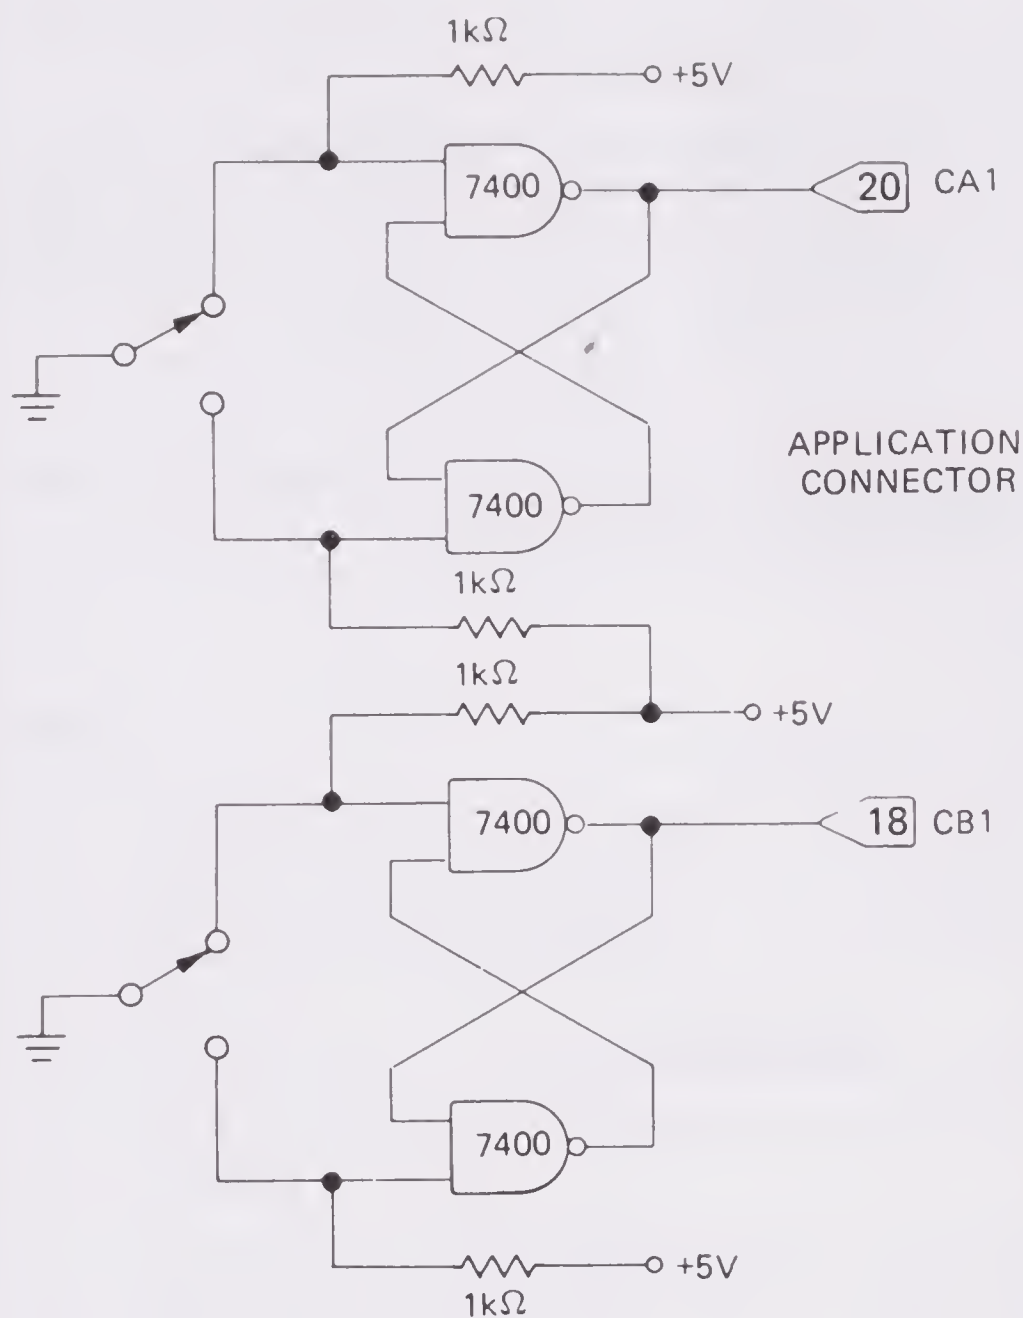

FIGURE B-1. Attachment of switches to user VIA control lines CA1 and CB1.
- Two switches attached to CA1 and CB1 of the user VIA as shown in Figure B-1. Table B-1 gives the pin assignments. These switches should be debounced with cross-coupled NAND gates.